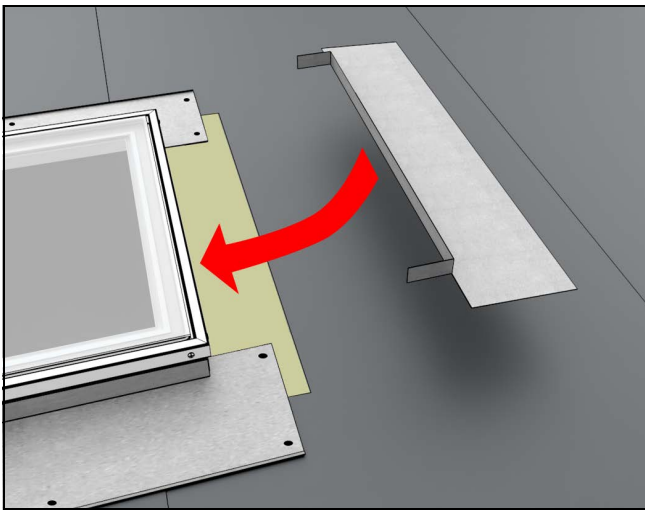
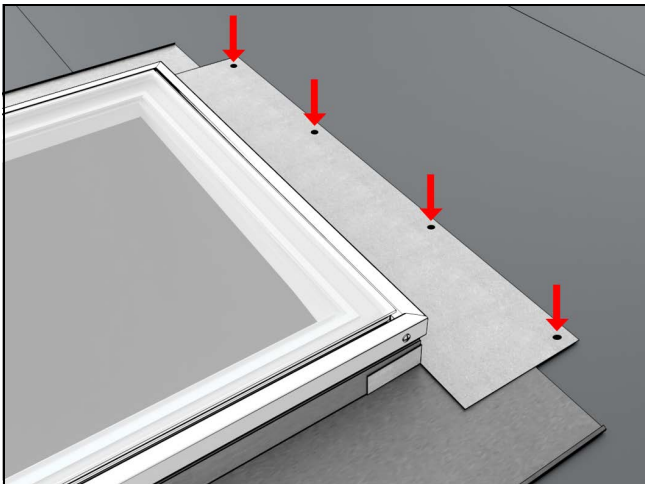

Figure 52
Figure 53
5. Center head jamb saddle and bend tabs over, press firmly to deck and unit. See Figure 52. Attach using roofing nail. *Note: No fasteners within 4" of unit.* See Figure 53.